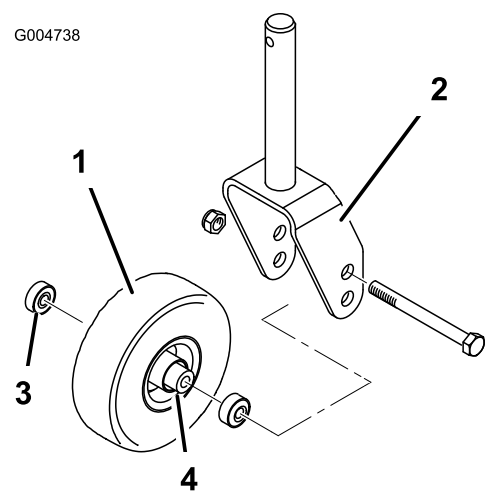
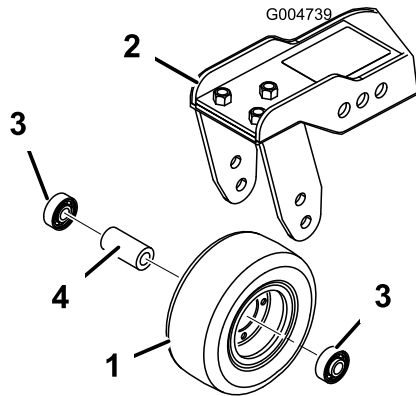

Figure 85
Figure 86
1. Remove the locknut from the bolt holding the castor wheel assembly between the castor fork (Figure 85) or the castor pivot arm (Figure 86). Grasp the castor wheel and slide the bolt out of the fork or pivot arm.
- Remove the bearing from the wheel hub and allow the bearing spacer to fall out (Figure 85 and Figure 86). Remove the bearing from the opposite side of the wheel hub.